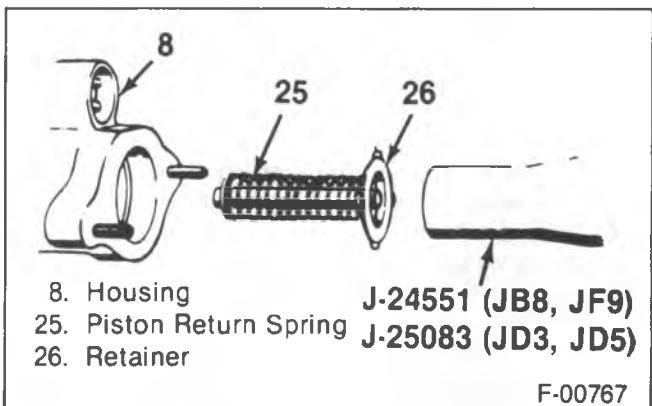

Figure 8—Installing the Output Rod Retainer
9. Bracket (17) and nut (18).
10. Boot (19).
11. Output pushrod (28), baffle (27), piston return spring (25) and retainer (24) by using J 24551-A or J 25083 (figure 8).
12. Retainer (26).